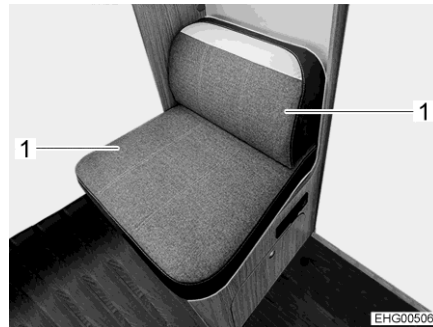

Fig. 28 Bench
- Remove two cushions (Fig. 28,1).